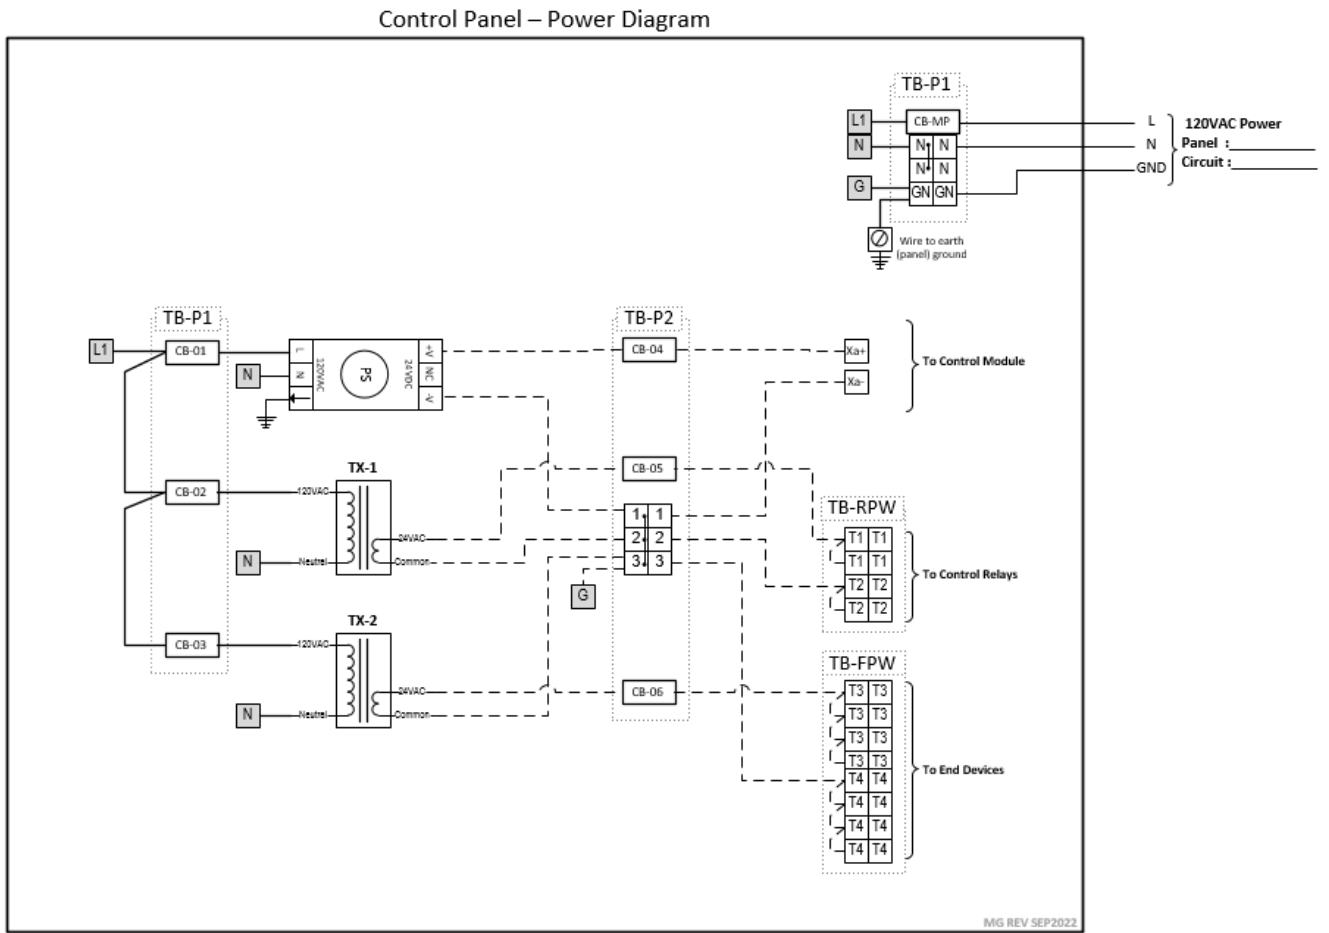

Figure: CPL-01A
- Circuit Breaker (CB)
The control panel must have a main circuit breaker (CB) whose label will be: CB-MP. This CB must be selected according to the total load that will be used in the control panel; see figure CPL-01A for a power diagram.
- Power Supply (PS)
If power supplies are used to feed 24 VDC to the controllers, the power supply must have a circuit breaker in the primary circuit and another circuit breaker in the secondary circuit. The CB must be selected according to the amperage necessary to protect against overcurrent. See Figure CPL-01A for the power diagram.
Each 120 / 24 VAC transformer used in the control panel must have a circuit breaker in both the primary circuit and another circuit breaker in the secondary circuit. The CB must be selected according to the amperage necessary to protect against overcurrents. See Figure CPL-01A for a power diagram.